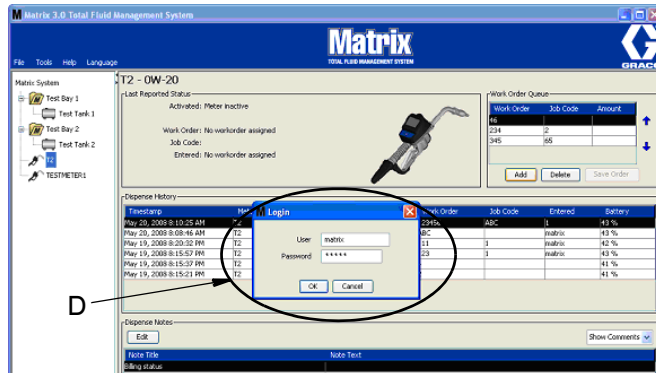

FIG. 208
3. In the pop-up box (D) (FIG. 208) type in your user name and password. Click OK.